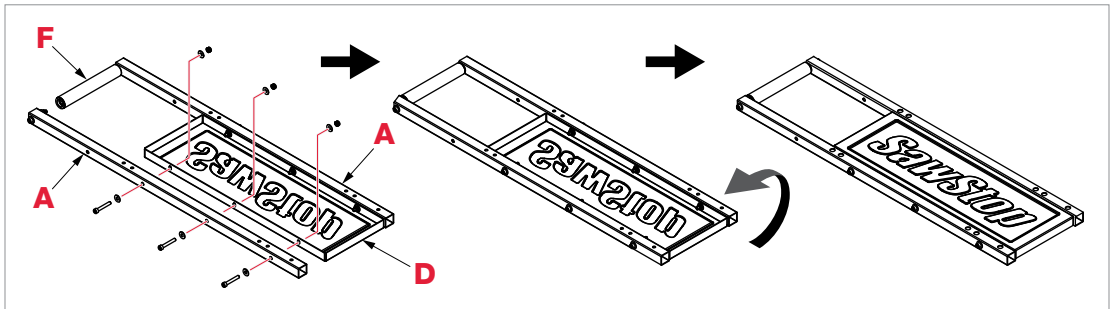

Fig. 33
- 4 Slide the other table tube (A) with the other ball bearing towards the insert table (D) and large table roller (F), and press the ball bearing into the open end of the table roller bushing in the large table roller (see Fig. 33).